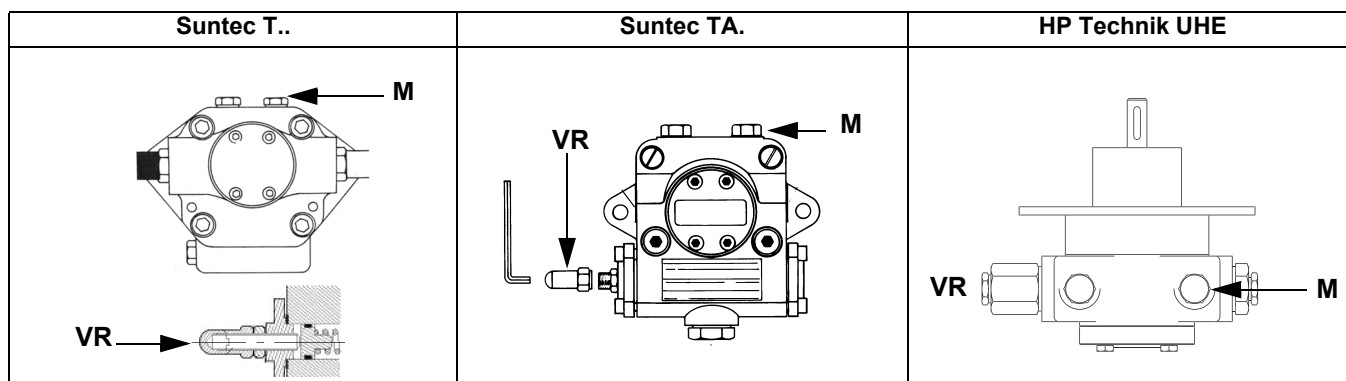
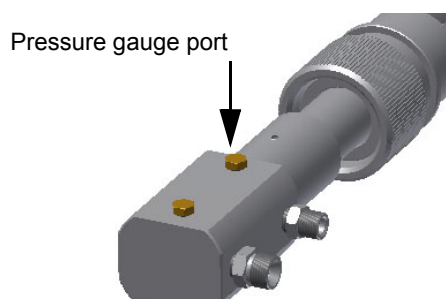

Fig. 10
Fig. 11
ATTENTION: To set the outlet pressure of the VD-R regulator, act on the adjustment ring nut (Fig. 10)
The position of the indicator in the dial indicates the value of the outlet pressure calculated as a percentage of the full scale of the PS sensor (Fig. 11)
- 3 bleed the air from the **M** pressure gauge port (Fig. 10) by loosening the cap without removing it, then release the contactor.
- 5 Only if necessary, adjust the supply pressure as follows (see related paragraph); insert a pressure gauge into the port shown on Fig. 11 and act on on the pump adjusting screw **VR** (see Fig. 10) as to get the nozzle pressure at 20bar (Monarch or Fluidics nozzles - see page 44-38).